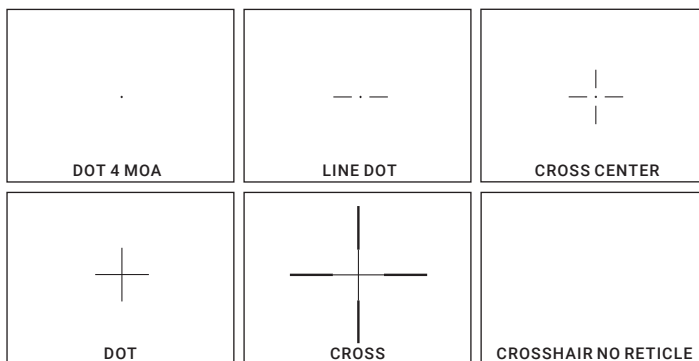

FIGURE 2-22. RETICLE PATTERNS
Push and hold button (4) to select from a choice of reticle patterns: "Dot 4 MOA," "Line Dot," "Cross Center Dot," "Cross," "Crosshair" (Figure 2-22).